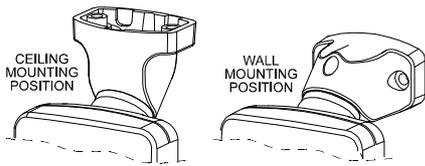

Figure 7. Wall and Ceiling Positions of Bracket
5. Rotate the bracket to the desired position (see Figure 7) but do not yet tighten the screw fully.